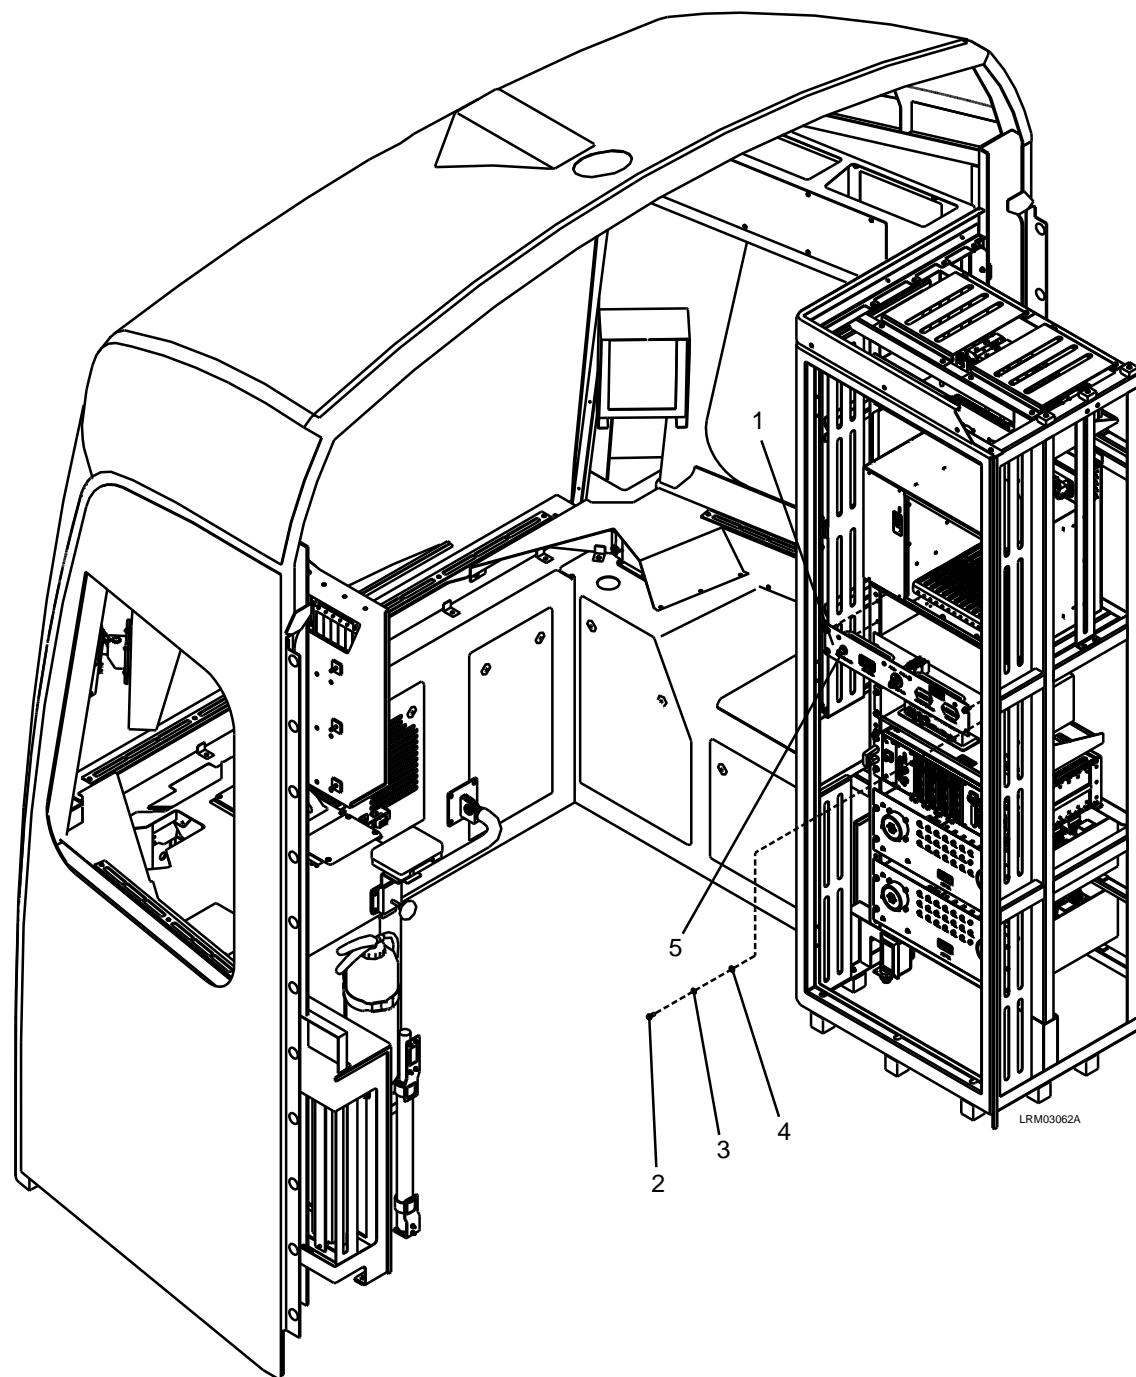

Figure 7-43: Hour Meter / Odometer Panel
2. Disconnect the electrical connectors (5) to the Hour Meter / Odometer Panel (1). See Figure 7-43.
3. Remove the four M6 x 16 screws (2), M6 lock washers (3), and M6 plain washers (4).
4. Carefully remove the Hour Meter / Odometer Panel (1).